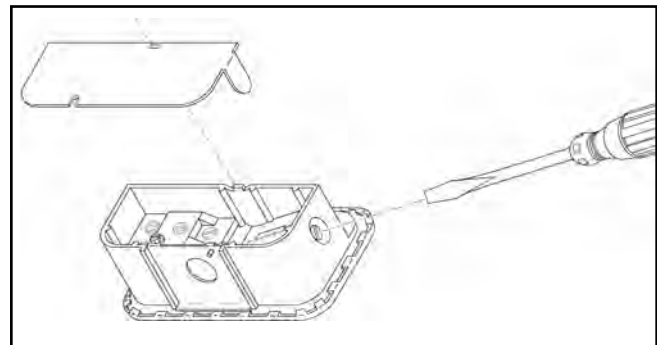

Figure 5-11
**DESCRIPTION** - See Figure 5-11. The air flow switch is used to prove the flow of combustion air from the blower assembly. It causes the fuel valve to close or fail to open upon loss of or inadequate combustion air.